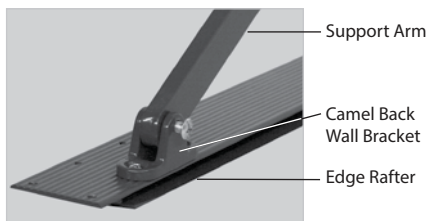

FIG. 3
*NOTE: Insert the machine screws through the Camel Back Wall Bracket and Support Arms (FIG. 3) **from the outside in**, toward the awning.*